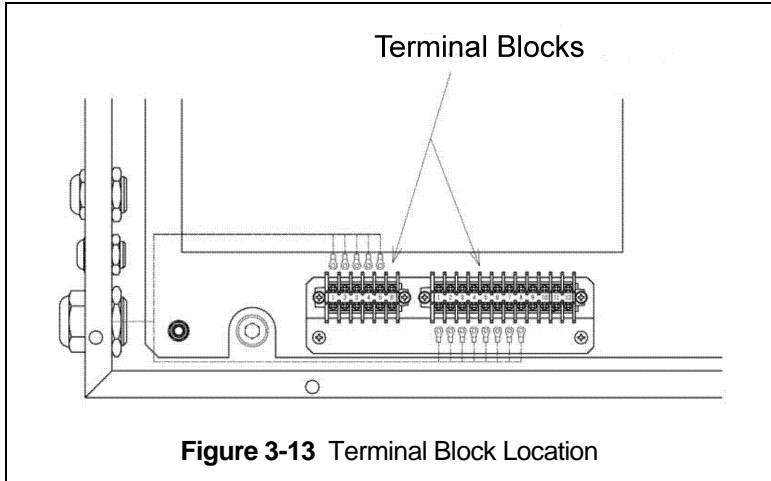
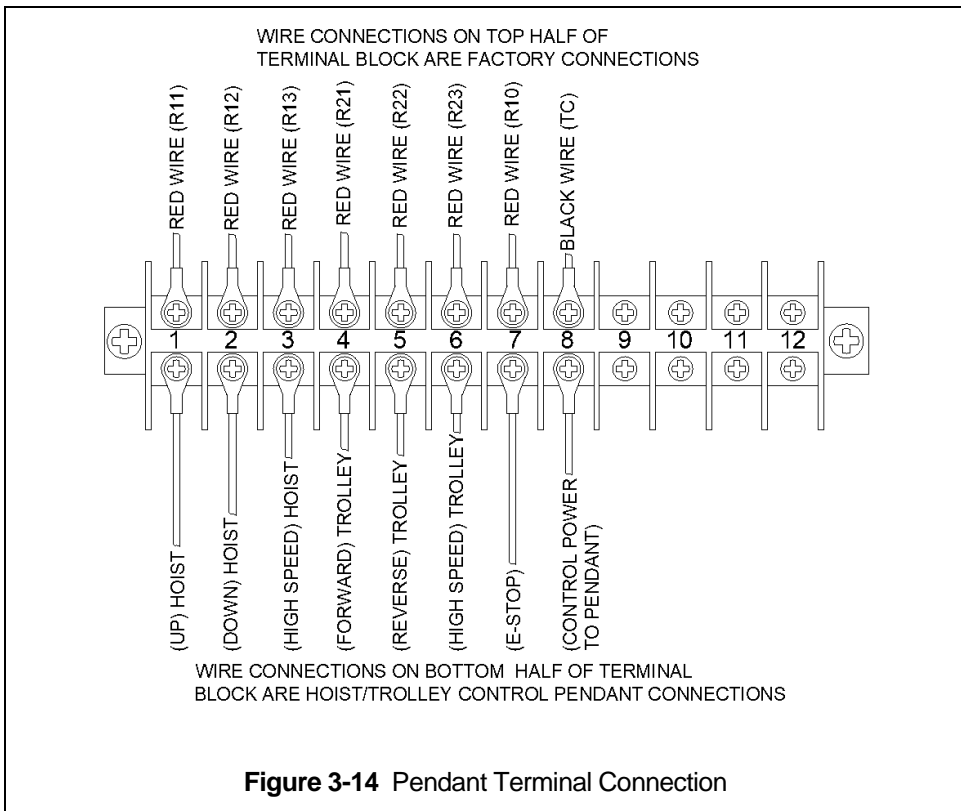

Figure 3-13 Terminal Block Location
Figure 3-14 Pendant Terminal Connection
- 1) Refer to **Figure 3-13**, **Figure 3-14** and the hoist wiring diagram for pendant connections.
- 5) Access to terminal strip: The terminal block/strip is mounted to the left of the VFD in the control box, as shown in **Figure 3-13**.
- 6) Connect the individual pendant leads to the correct terminals as shown in **Figure 3-14**. Make sure the terminals are securely tightened and each lead is completely isolated.